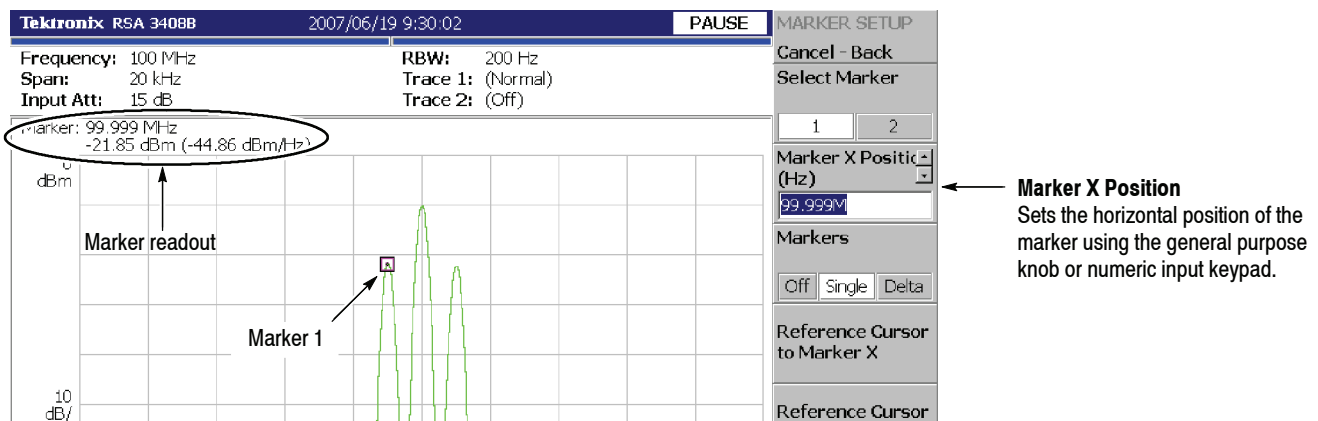

Figure 2-38: Measurement with a single marker
3. The **Marker X Position** menu item is selected by default. Turn the general purpose knob to move the marker to a measurement point (see Figure 2-38).